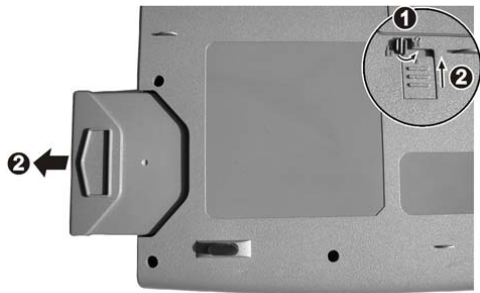

Figure 2-1
2. Turn the locking button to the "unlock" (🔓) position (❶), then slide and hold the latch in the unlock position and pull the battery pack out of the compartment (❷).(figure 2-1)